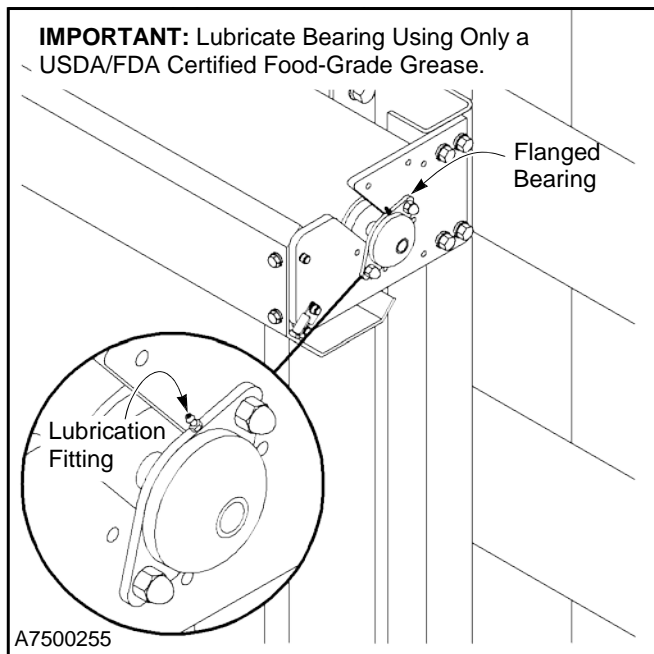

Figure 28
Make sure all nuts, bolts, set screws, and anchors are tight throughout the door. Examples: motor mounting bolts, wall mounting hardware, floor anchors, sprocket set screws, etc. (See Figure 12 through Figure 28.)
1. Inspect the hardware securing the left and right mounting brackets to their respective side column. (See Figure 12 and Figure 28.)
Lubricate the bearing using a high-quality, USDA/FDA certified food-grade grease. (See Figure 28.)